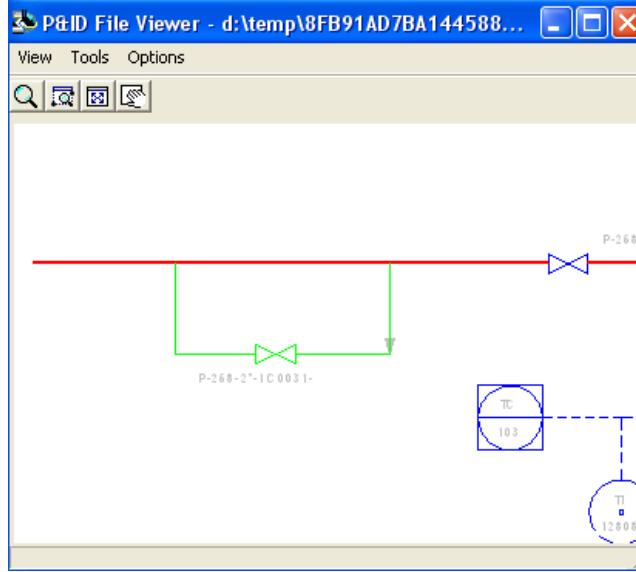

Figure 24: Correlated Bypass Line in the P&ID File Viewer Window
13. Open the **P&ID File Viewer** window. The bypass line you just placed is highlighted in green, as shown in Figure 24. This indicates that the bypass line is correlated and its properties and topology matches the design basis.